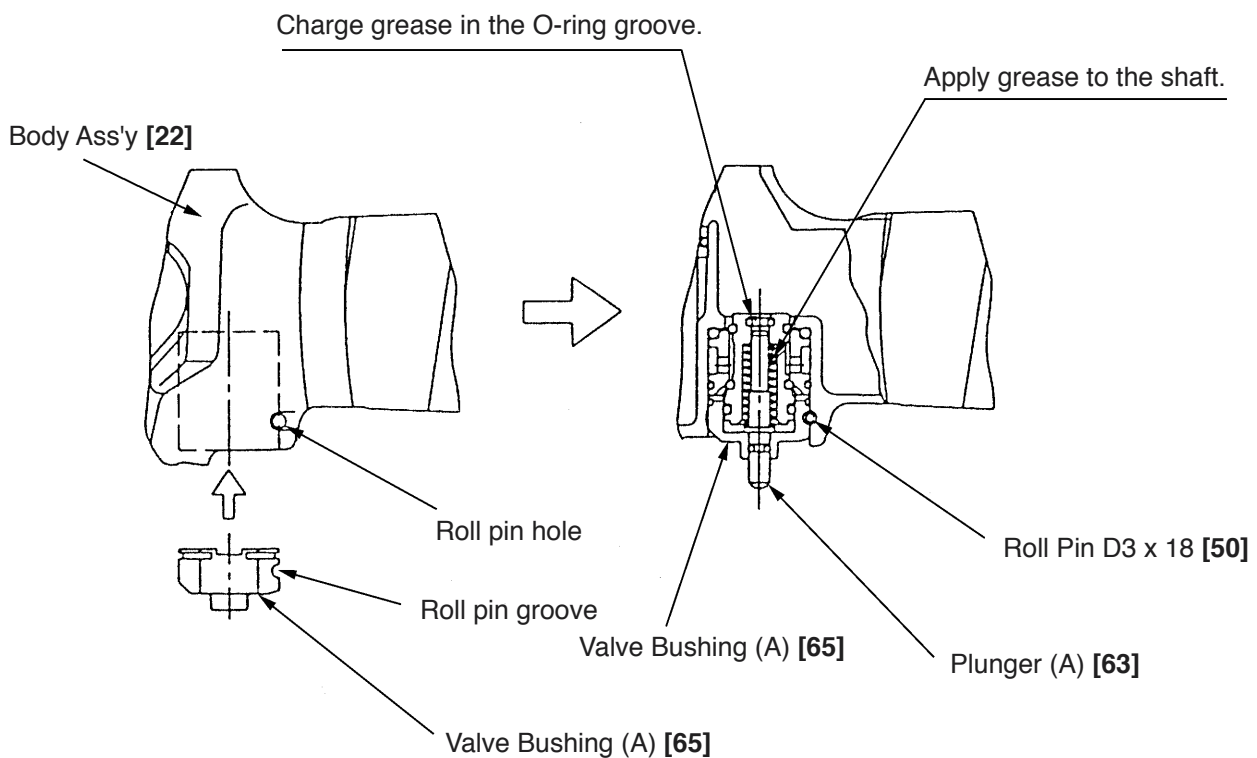

Fig. 18
- Apply enough lubricant to Plunger (A) [63], the O-ring (I.D 1.8) [64] and the O-ring (I.D 8.8) [58], O-ring (S-4) [59], O-ring (I.D 11) [61] of Valve Piston (B) [60].
- Fit Valve Bushing (A) [65] into the Body Ass'y [22] so that its roll pin groove is aligned with the roll pin hole of the Body Ass'y [22] as illustrated in Fig. 18. First insert a roll pin puller (3 mm dia.) and hammer in the Roll Pin D3 x 18 [50] after making sure that it can pass through the roll pin hole.